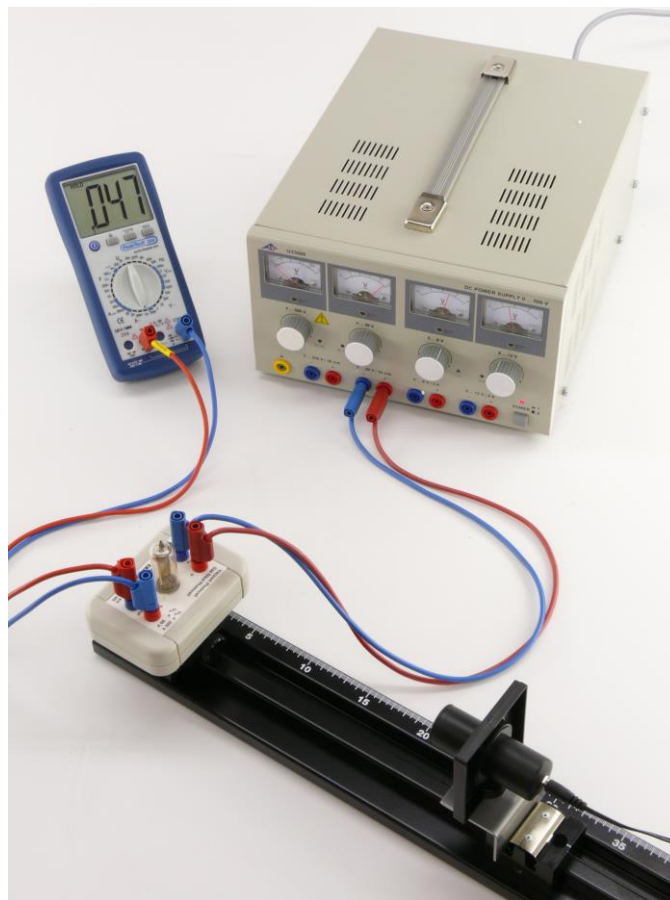

Fig. 2 Experiment set-up for demonstrating the photoelectric effect
- Set up the photocell using a stand and clamps or an optical bench (Fig. 2).